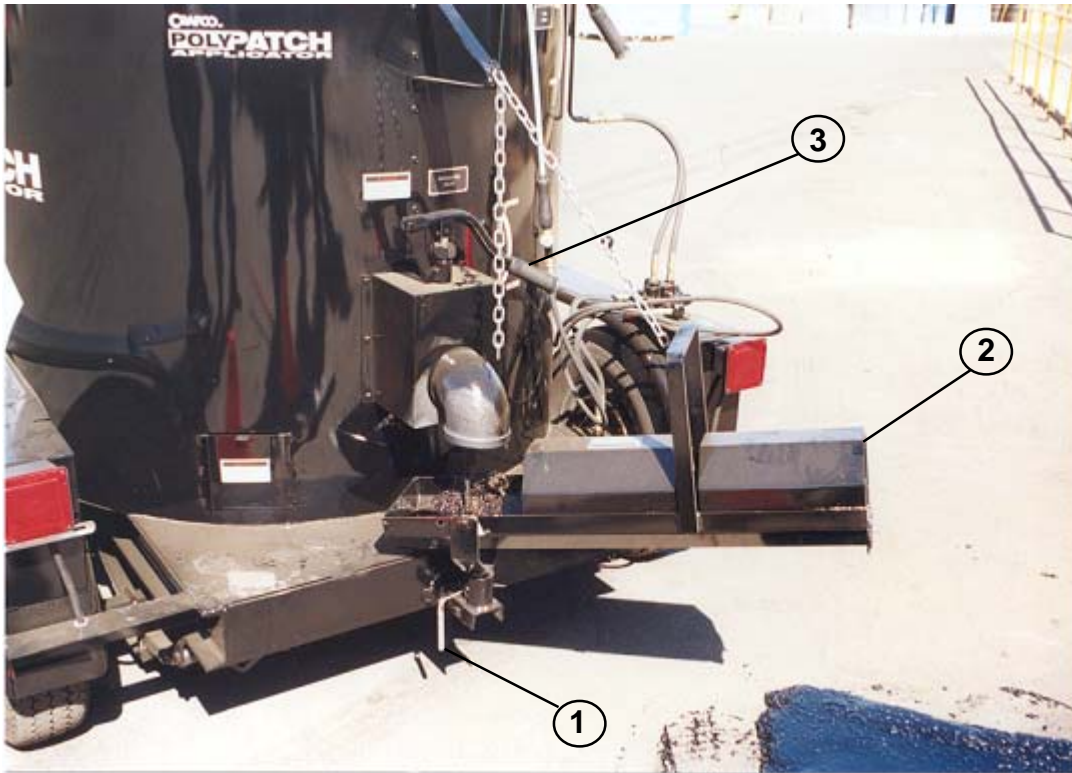

FIGURE 2
8. Position machine over desired work area and remove locking pin (1) in applicator shoot (2) (see Fig. 2). Removing locking pin enables the shoot to rotate approximately 180° for easy access to the work area.
9. With shoot positioned over work area, slowly open applicator valve (labeled) (3) (see Fig. 2) by lifting valve handle and applying material as needed. If material fails to flow from the applicator valve, use hand torch supplied with applicator to heat valve and plumbing until material begins to flow. When the proper amount of material has been applied to the work area, firmly lower the applicator valve handle to stop material flow.
6. Clean material residual from applicator chute by heating the underside of chute with hand torch (see Fig. 2)